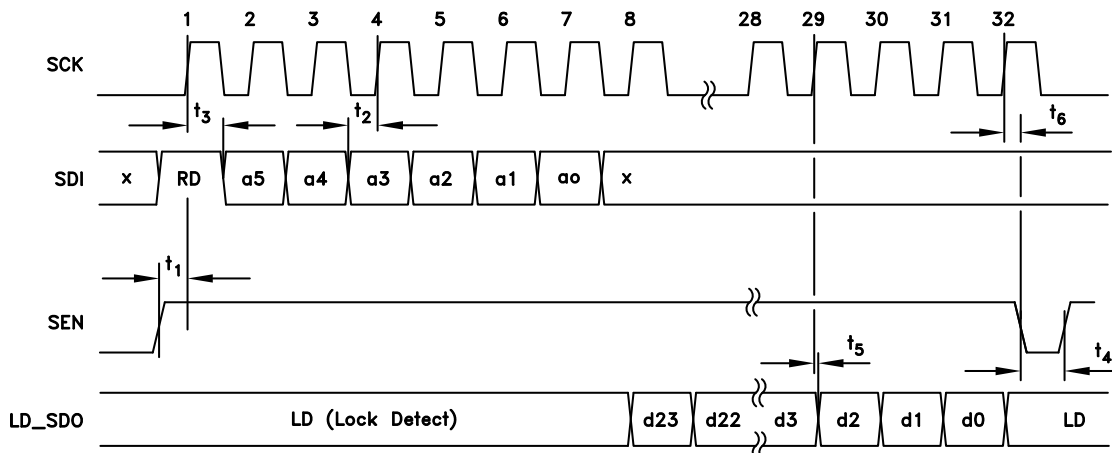

Figure 42. HMC Mode Serial Port Timing Diagram - READ
A typical HMC Mode READ cycle is shown in Figure 42.
- The Master (host) asserts both SEN (Serial Port Enable) and SDI to indicate a READ cycle, followed by a rising edge SCK. Note: The Lock Detect (LD) function is usually multiplexed onto the LD\_SDO pin. It is suggested that LD only be considered valid when SEN is low. In fact LD will not toggle until the first active data bit toggles on LD\_SDO, and will be restored immediately after the trailing edge of the LSB of serial data out as shown in Figure 42.
- The slave (synthesizer) reads SDI on the 1st rising edge of SCK after SEN. SDI high initiates the READ cycle (RD)